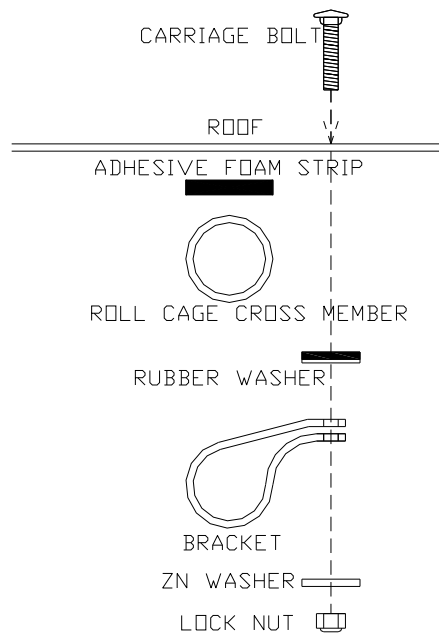

Figure 6
7. Next, attach the front and rear roof mount brackets according to **Figure 6 on next page**. Use channel locks or pliers to hold top of carriage bolt and turn nut with 7/16” socket.
8. Then, once front and rear brackets are attached, use holes in the center where panel overlap as a guide to drill through the section of the roof which overlaps. Once holes have been drilled through both panels, attached mounting brackets through both panels according to **Figure 6**.